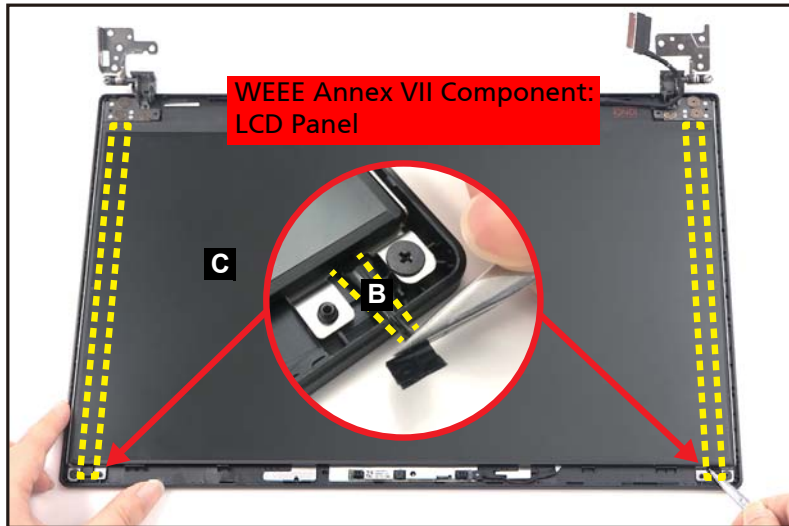

Figure 1-46. LCD Panel Removal
2. Pry slightly to access the double-sided mounting tape (B) underneath the LCD panel (C). Then pull to detach the double-sided mounting tape. Repeat the same procedure to remove the double-sided mounting tape on another side of the LCD panel (Figure 1-46).